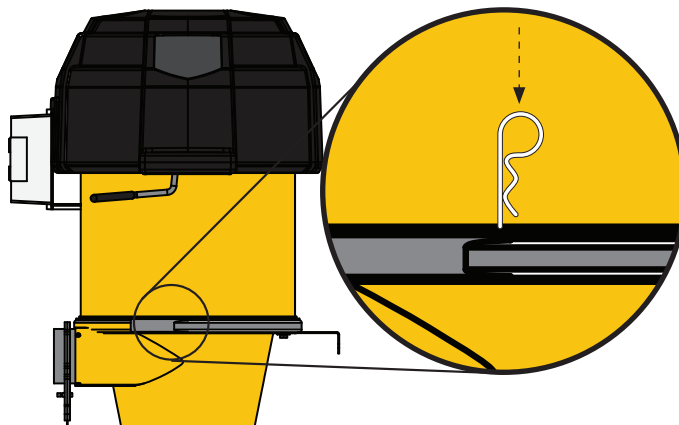

FIG. 22
Secure the Ring Clamp (D) using the Clamp's cotter pin [FIG. 22].